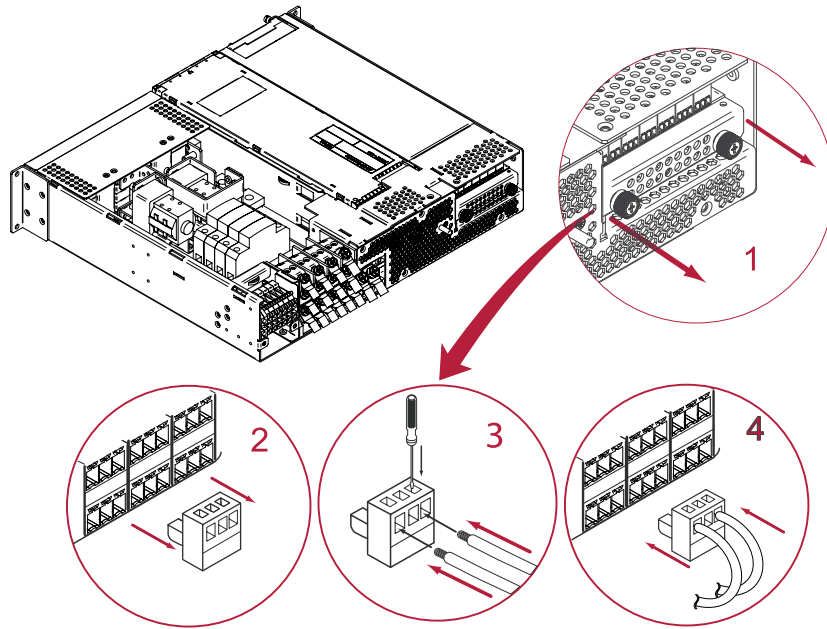

Figure 4-18 Alarm Connection
1. Pull out the alarm interface board support by unscrewing two retaining screws on the rear of the power system (Figure 4-18, #1).
2. Remove the green plug from each connector (Figure 4-18, #2)
5. Insert the wire into the openings of green plug and tighten screw to clamp wire (Figure 4-18, #3).
6. Re-insert the the green plug with the alarm cable into the alarm interface board (Figure 4-18, #4).